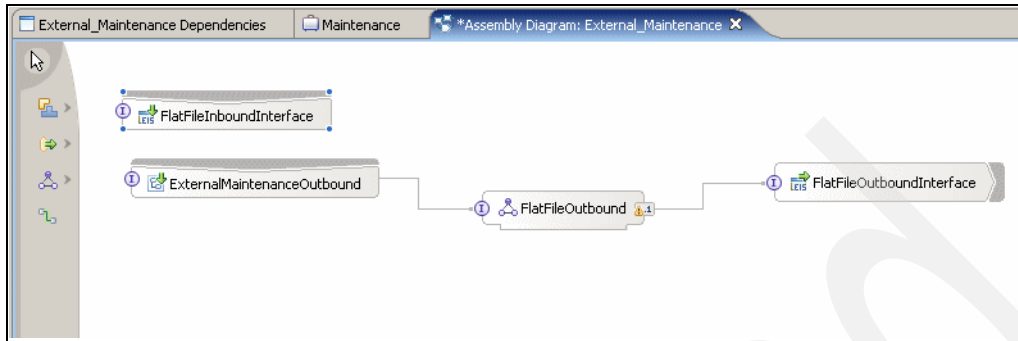

Figure 3-7 Assembly diagram
11. Save all changes (Figure 3-7).